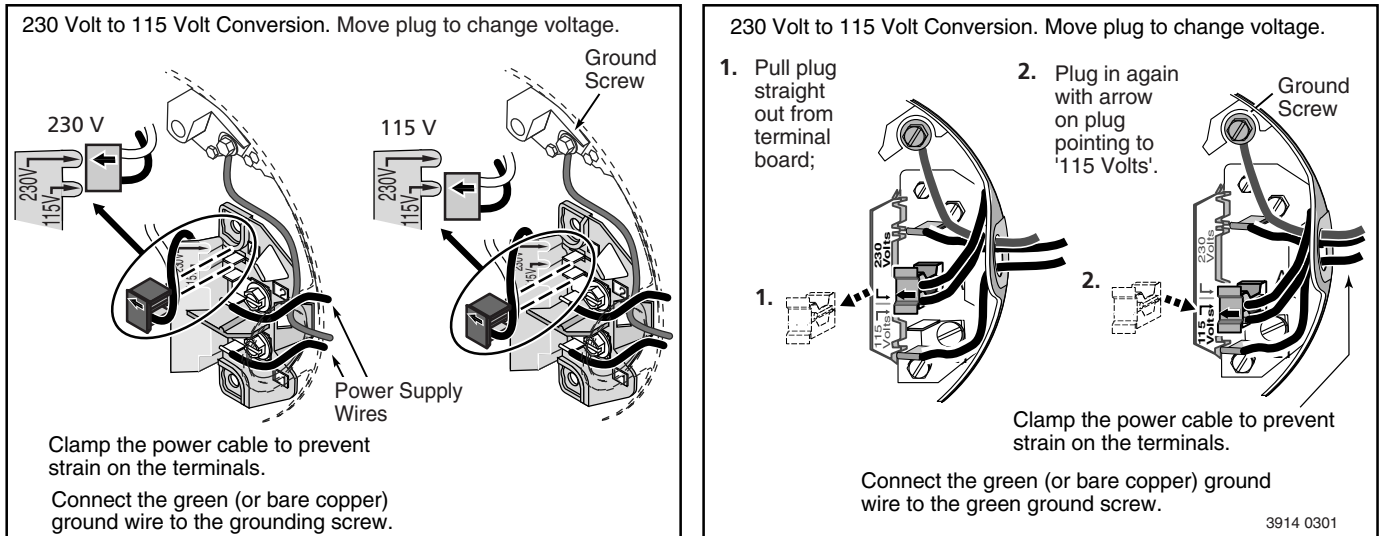

Figure 3 – 115/230V Dual Voltage Single Phase Wiring Diagram
- Step 7. Connect current carrying conductors to terminals L1 and L2 under motor canopy. When replacing motor, check wiring diagram on motor nameplate against Figure 3. If the motor wiring diagram does not match either diagram in Figure 3, follow the diagram on the motor.
IMPORTANT: 115/230 Volt single phase models are shipped from factory with motor wired for 230 volts. If power supply is 115 volts, remove motor canopy and reconnect motor as shown in Figure 3. Do not try to run motor as received on 115 volt current.